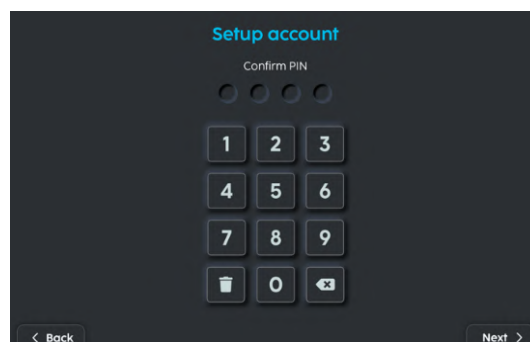

FIGURE 3-6
6. Confirm your new PIN **(Fig. 3-6)**.